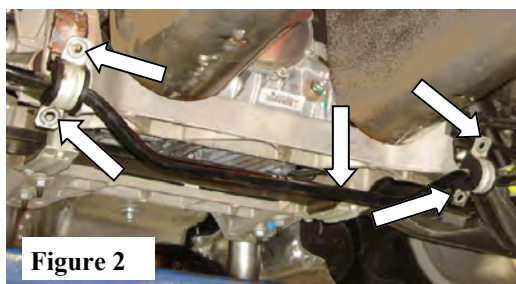

Figure 2
2. Remove hardware holding rear anti-sway bar to frame (keep hardware for reinstallation later). Reposition anti-away bar below for clearance and installation of your new exhaust. (See Fig. 2)